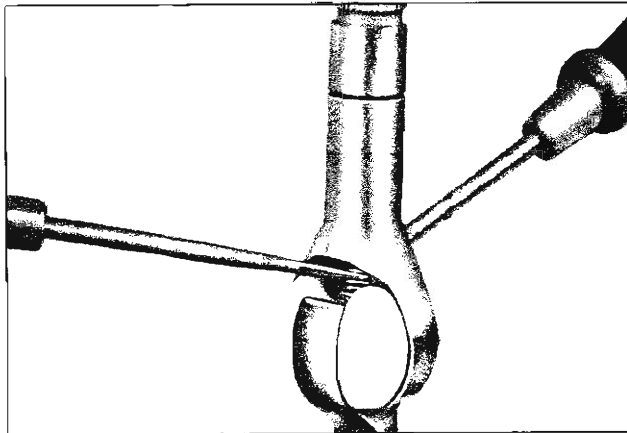

Fig. 30—Removing Spherical Joint Spring
3. Using two narrow bladed screwdrivers through the coils of the spring, compress spring enough to remove the upper end from the upper seat (fig. 30).